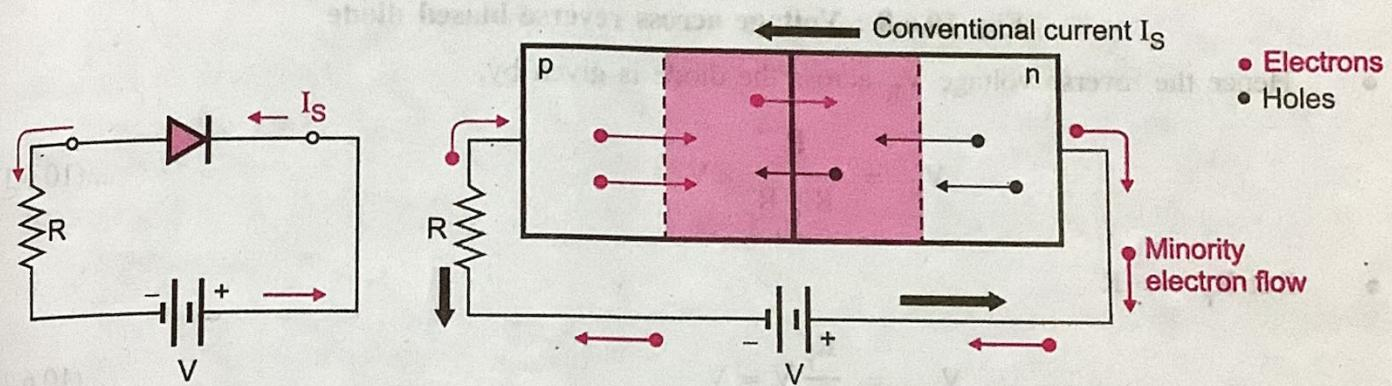

Fig. 10.6.7 : Current flow in reverse biased diode
- The minority electrons in the p-region are attracted by the positive end of the dc supply. Hence these electrons will cross the junction and constitute the reverse current I_S of the diode. This is shown in Fig. 10.6.7.